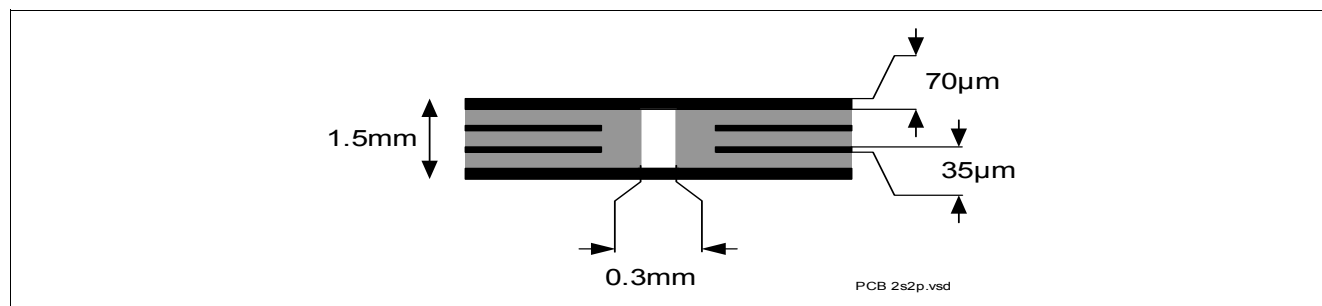
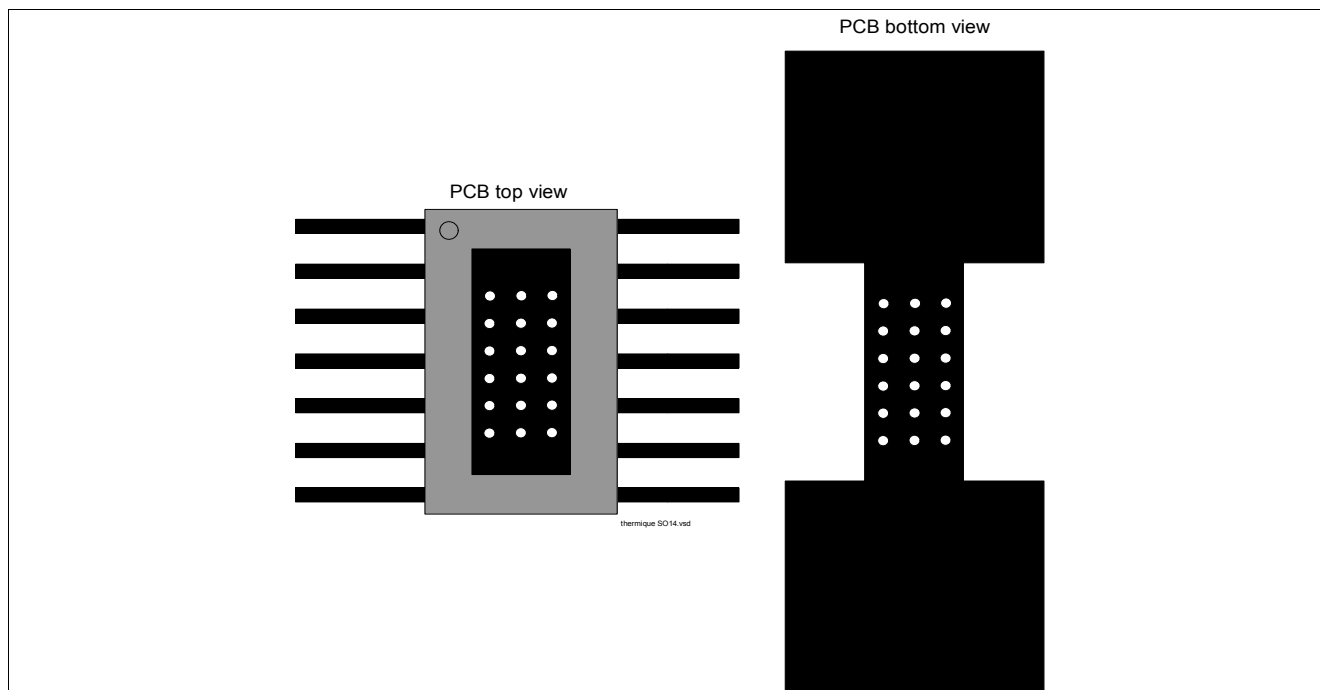

Figure 4 2s2p PCB Cross Section
Figure 5 PC Board Top and Bottom View for Thermal Simulation with 600 mm² Cooling Area
- 2) Specified R_{thja} value is according to JEDEC JESD51-2,-5,-7 at natural convection on FR4 2s2p board; The product (chip + package) was simulated on a 76.4 x 114.3 x 1.5 mm board with 2 inner copper layers (2 x 70 μm Cu, 2 x 35 μm Cu). Where applicable, a thermal via array under the exposed pad contacts the first inner copper layer. Please refer to Figure 4 and Figure 5.